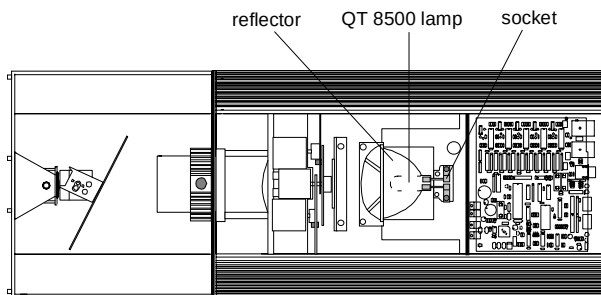

Figure 3-2. Underside of Trackspot with access door removed
5. Locate the reflector, lamp socket, and old QT 8500 lamp (see Figure 3-2). To remove the existing QT 8500 lamp, reach inside the reflector and carefully pull the lamp straight out of the socket. Lift the old lamp out of the reflector and discard.